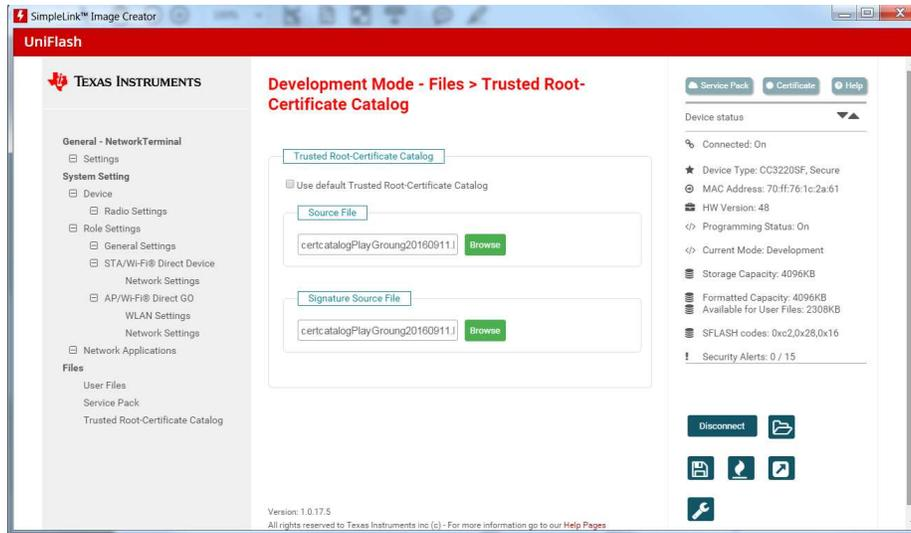

Figure 2-10. Certificate Store
2. Uncheck the Use default Trusted Root-Certificate Catalog checkbox and select Source File (.lst) and Signature Source File (.lst.signed.bin), available at <sdk-installation>\tools\certificate-playground, as shown in Figure 2-10.